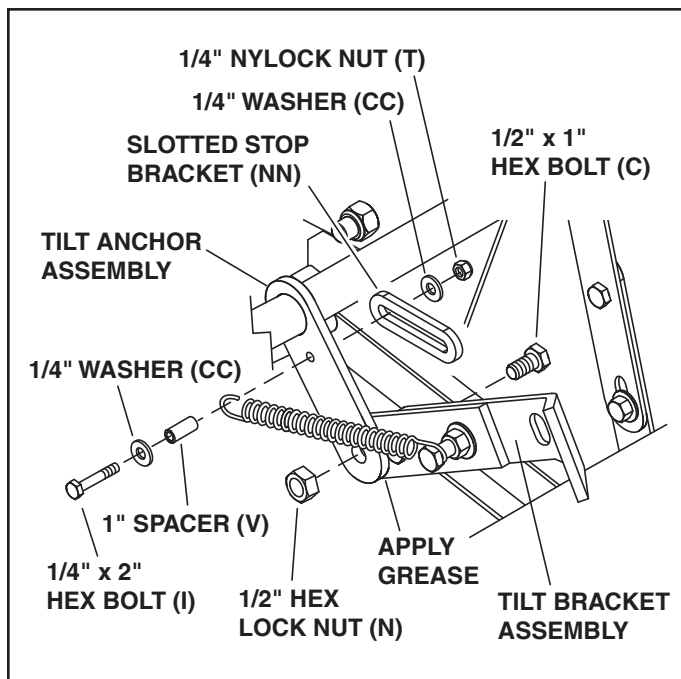

FIGURE 6
STEP 7: INSTALL TILT BRACKET ASSEMBLY (SEE FIGURE 6 ON NEXT PAGE)
- Lightly apply grease to the end of the arm on the tilt anchor assembly and install the tilt bracket assembly to the arm using a 1/2" x 1" hex bolt (C) and 1/2" hex lock nut (N). **Tighten then loosen** the nut 1/4 turn, or until the tilt bracket assembly pivots freely.
- Install the 1/4" x 2" hex bolt (I) through a 1/4" washer (CC), the 1" long spacer (V) and then through the end of the extension spring on the tilt bracket assembly. Next, insert the end of the bolt into the hole in the arm of the tilt anchor assembly and install the slotted stop bracket (NN), a 1/4" washer (CC) and a 1/4" nylock nut (T) onto the bolt. **Tighten.**